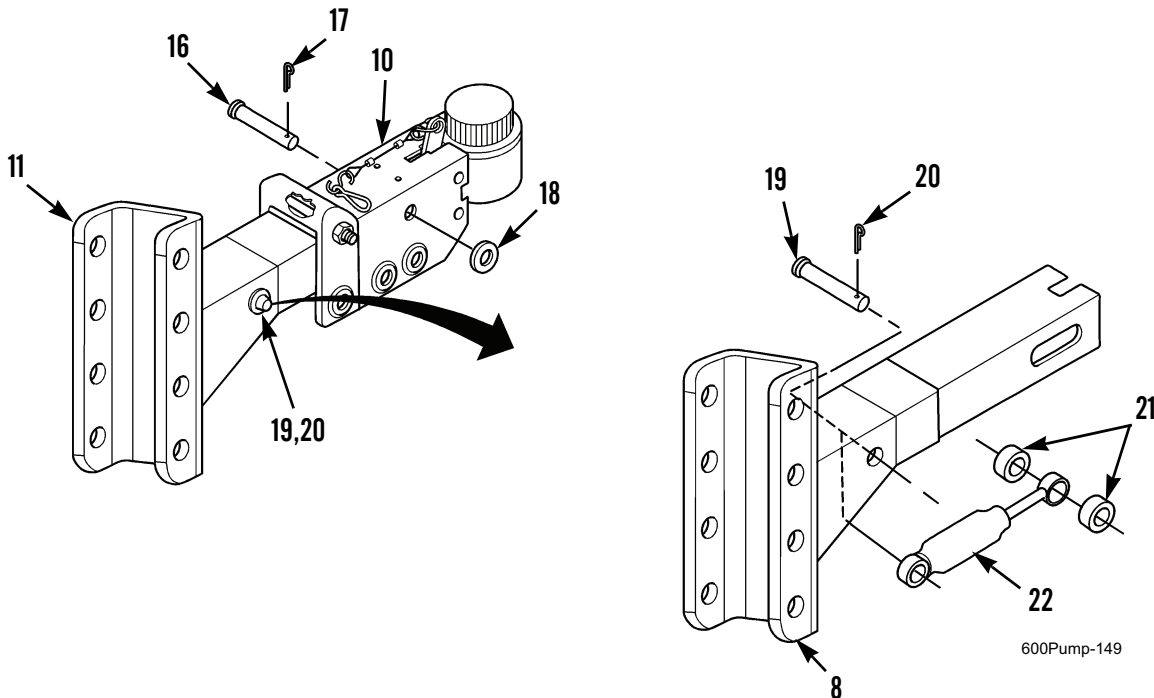

Figure 10. Actuator Bracket and Damper Inside Actuator Housing.
7. Install damper (Figure 10, Item 22) on actuator bracket (Figure 10, Item 11) with damper pin (Figure 10, Item 19) and new cotter pin (Figure 10, Item 20).
8. Position two master pin rollers (Figure 10, Item 21), with beveled sides facing out, on either side of damper (Figure 10, Item 22) inside actuator bracket (Figure 10, Item 11). Use a 5/8 in. deep well socket to hold damper and rollers in place.
9. Install actuator bracket (Figure 10, Item 11) on actuator housing (Figure 10, Item 10) with master pin (Figure 10, Item 16), washer (Figure 10, Item 18), and new cotter pin (Figure 10, Item 17).